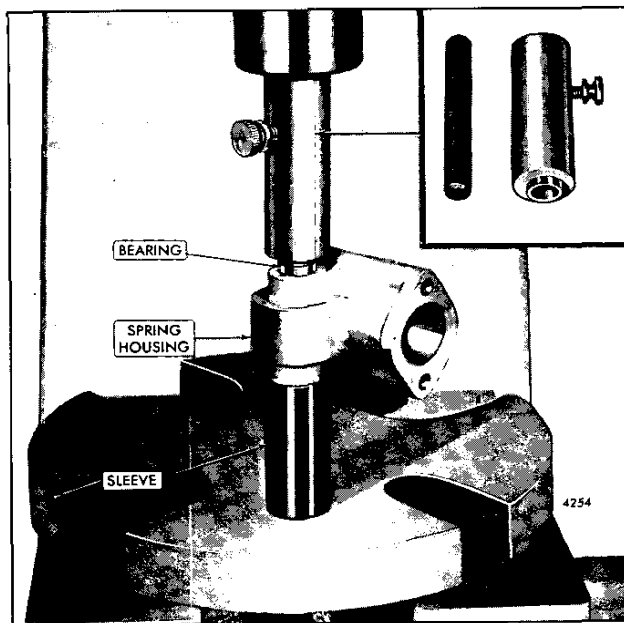

Fig. 15 – Installing Speed Control Shaft Bearings In Spring Housing Using Tool J 9196
3. Place the pilot rod end of the bearing installer assembly in the bearing. Support the spring housing, bearing and installer on a short sleeve on the bed of an arbor press as shown in Fig. 15, then press the bearing in the housing until the shoulder on the installer contacts the housing. When the shoulder on the installer body contacts the housing, the bearing will be properly positioned in the housing.
10. Remove the bearing pilot rod J 9196-2 from the installer body J 9196-1 and place the installer body over the end of the shaft and against the bearing. Support the spring housing, bearings and installer on a short sleeve on the bed of an arbor press as shown in Fig. 15, then press the bearing in the housing until the shoulder on the installer contacts the housing.